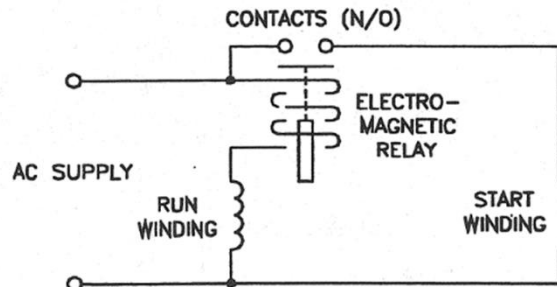

Figure 11. - Electromagnetic starting switch principle.
- a. **An electromagnetic mechanism** which opens the start winding circuit when line current falls to a specified value during starting. On starting, heavy current flows in the run winding, pulling a plunger up to connect the start winding. As the motor speeds up the current falls to about 70% of full speed, the plunger is released and the contacts open, disconnecting the start winding. A circuit showing the principle is shown in Figure 11.